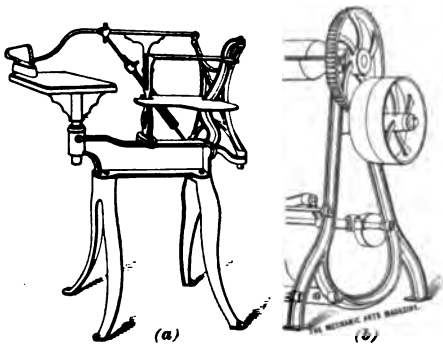

FIG. 1.
designing. Thus, it has taken many years to eliminate the resemblance to a stage coach from the railroad car, and it will take a long time to eradicate the horse from the horseless carriage, so that it may be less carriage than the automobile is as yet. We have but to look into the details of various kinds of machinery to find bad notions embodied everywhere, and it is as good as a year in college to be able to see them. Thus, wrong notions about the strength and stiffness of machine parts, frames, and other details are most conspicuous in certain classes of labor-saving machinery, agricultural machines, and all such contrivances that perform their functions merely by virtue of their ingenious mechanisms, and in which strength of material does not come into play much beyond the necessity of keeping the parts together. In these machines we still admire the art of the patternmaker of bygone days: beautifully curved legs [(a), Fig. 1], graceful contours of side frames [(b), Fig. 1], medieval S cranks, and ogee pulley arms. In most of these cases, the crookedness of the parts mentioned does no particular harm, but certainly no good, and a designer should not sin any more than any other mortal just because he is not likely to be found out; besides, in deviating from the right principles and getting in the habit of doing so he digs himself a pit into which he is sure to fall, sooner or later, as it will lead him to introduce the same artistic designing into machinery where it positively does harm.
As important as it is to acquire correct notions, it is equally so to get rid of bad ones. There seems to be a certain innate weakness with most geniuses in the mechanical line to make things as crooked as possible. For no apparent reason, levers are bent and rods given a kink, castings embellished with ribs where they should not be, etc. Fig. 1 affords a mild example of what we mean. If the would-be designer discovers any symptoms of such a weakness he had better combat it at the very beginning. As strong prophylactics, the following two prescriptions are recommended: (1) *Use straight or circular outlines whenever possible.* (2) *Make your details as symmetrical to the directions of the forces acting on them as the case will admit.* Consideration of the fact that irregular-shaped